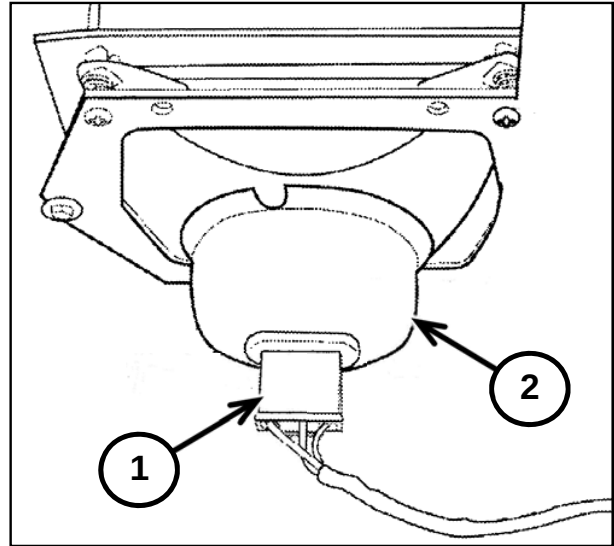

Figure 3-35
3. Remove the connector (1) in Figure 3-35, and rubber (2) in Figure 3-35, from the housing.